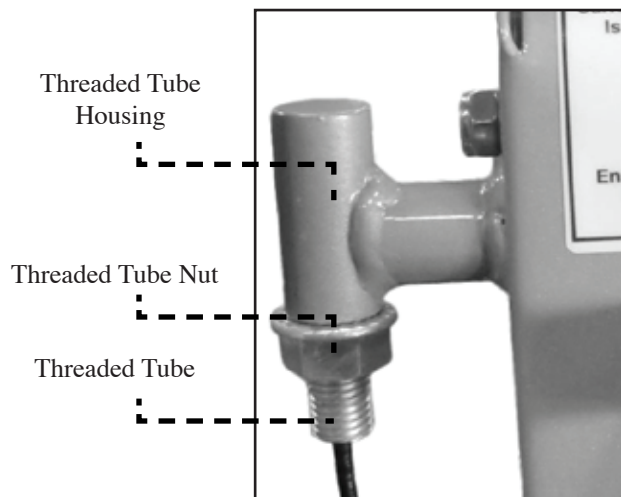
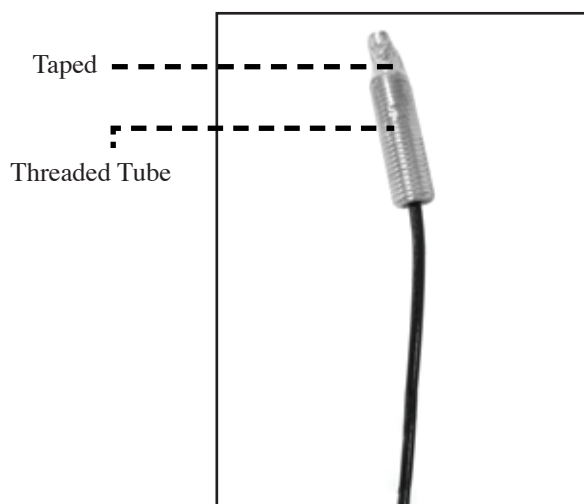

Figure 7-1
Figure 7-3
Remove Threaded Tube Nut from Threaded Tube. Take Cable (21) and tape (use any adhesive tape) Threaded Tube on to Cable as shown in Figure 7-3 below. This will prevent the Threaded Tube from sliding on the cable.
Insert cable end shown on Figure 7-3 into front top Left Frame (1) pulley housing (closest to Ellipse Inner Cap (46)) and feed the cable as shown in Step 8 and Step 9. For the cable routing on the inner pulleys above the weights refer to Figure 7-4. After cable has been installed on Left Frame (1), install Threaded Tube Nut on to Threaded Tube and thread the Threaded Tube into the threaded tube housing shown in Figure 7-1. Tighten the Threaded Tube nut. Insert the opposite end of the cable into the Swivel Pulley Housing (6) which will be installed between both pulleys as shown in Step 9.